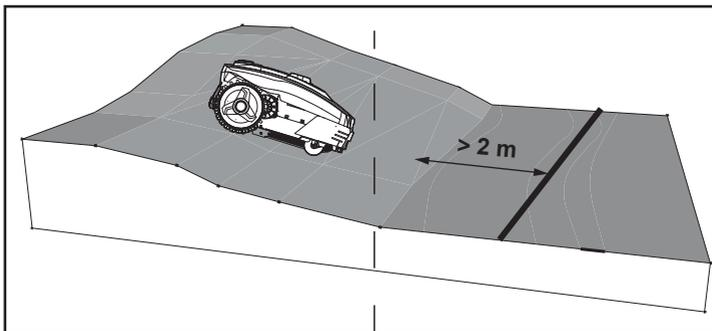

Fig. 8
- The boundary wire (19) should never run perpendicular to a gradient of more than 10°. Allow a corridor of at least 2 metre between a 10° or steeper slope and the boundary wire (19) (Fig. 8).